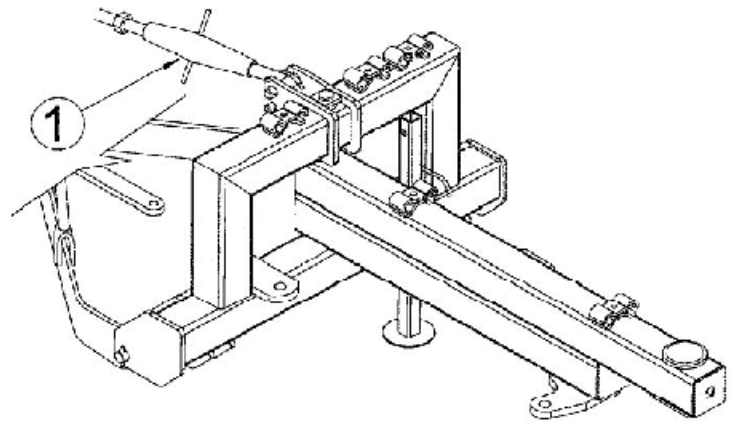

FIGURE 5
Depending on your selection, attach hydraulic cylinder or mechanical linkage in each location. The blade angling and tilt mechanical feature is a turn-buckle jack in each location for mechanical. The swing offset uses a tube within a tube design for mechanical. When a hydraulic function is used: attach hydraulic cylinders and hoses as shown in Figure 5 using the following instructions.
1) Screw a 90° str-el into butt and rod port of each cylinder. Rotate st-ell so it points toward the tractor. Attach one hose non swivel end to st-el fitting of each cylinder using Figure 5 as guide to hose length.
Blade Pitch (Refer to Figure 5)